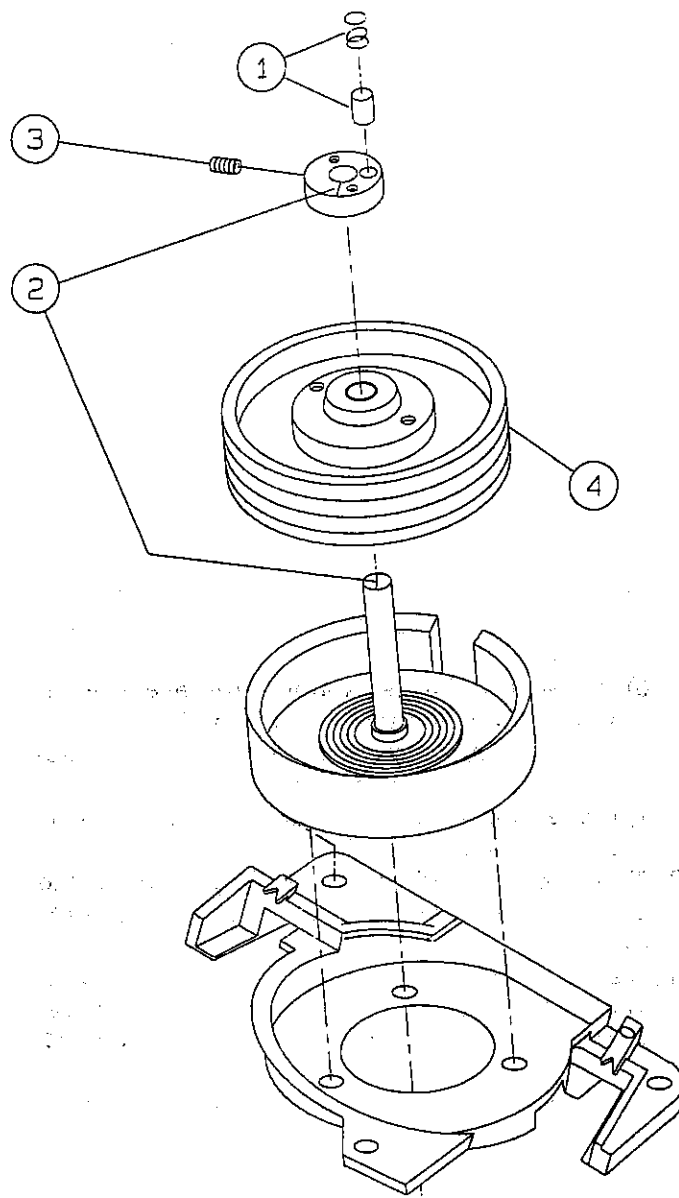

Figure 4-45.
3. Place the pre-load collar back in position in the direction marked in disassembling. (See Fig. 4-45. for setting.)